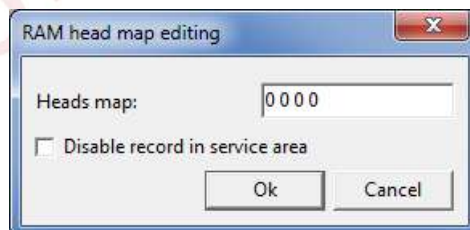

Fig.8.7.
- ◆ The exact physical head preventing the drive from starting is unknown in advance, so try replacing all heads with the zero one (Fig. 8.7).